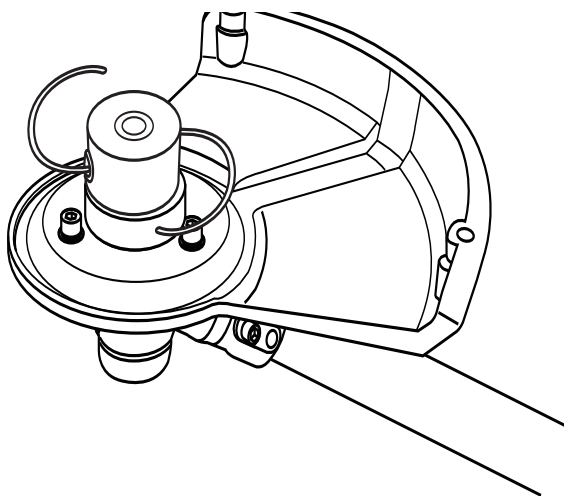

Fig. 8
3. Secure the trimming head with bolt and washer (Fig. 8).